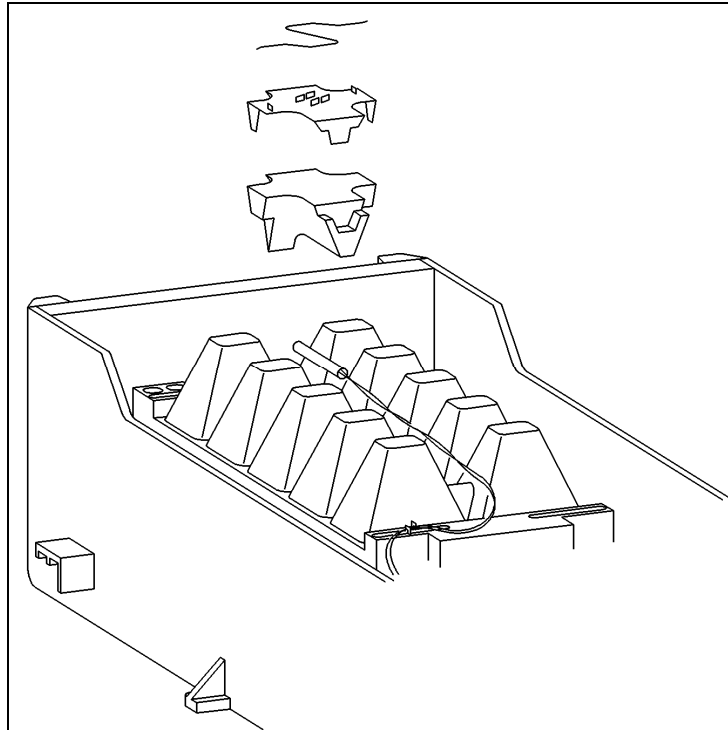

Figure 010-27: Icemaker NTC Removal
7. Remove the spring clip, Figure 010-27.
8. Remove the holder, Figure 010-27.
9. Remove the polystyrene piece, Figure 010-27.
10. Remove the NTC, Figure 010-27.